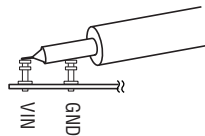

Figure 4. Scope Probe Placement for Measuring Output Ripple
NOTE: When measuring the output ripple, see Figure 4 for proper scope probe technique.
3. With the 250mA load at the output observe the switching frequency ripple at the output using the oscilloscope. The typical switching frequency is around 2.2MHz. See Figure 4 for proper measurement technique.
3. With the 250mA load at the output, observe the switching frequency ripple at the output using the oscilloscope. The typical switching frequency is around 2.2Mhz. See Figure 4 for proper measurement technique.
3. With the 250mA load at the output, observe the switching frequency ripple at the output using the oscilloscope. The typical switching frequency is around 1.2MHz. See Figure 4 for proper measurement technique.